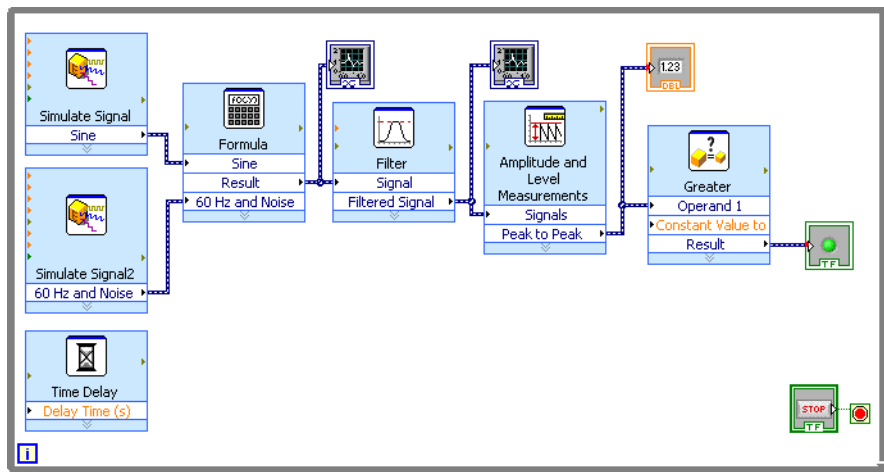

Figure 3-5. Block Diagram of the Warning Light VI
1. On the block diagram, move the **Warning** terminal to the right of the Greater Express VI. Make sure the **Warning** terminal is inside the While Loop, as shown in Figure 3-5.
The block diagram should appear similar to Figure 3-5.